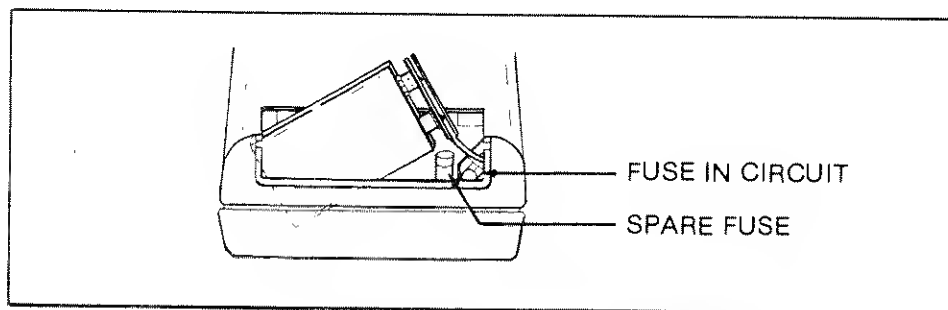

Figure 2-2. Battery Removal and Fuses
4. Slide the battery out of the compartment as shown in Figure 2-2.
When you installed the battery, you probably noticed two fuses at the right side of the battery compartment (refer to Figure 2-2 or examine your instrument). The fuse at the far right is F1. Fuse F1, 2A/250V, protects the current input from an input overload. The other fuse is a spare fuse for F1. When you purchase your instrument, F1 should be installed and the spare fuse should be in one of the two slots next to it. The larger slot is for the American-style fuse, and the smaller slot is for the European-style fuse (either style fuse fits in the installation compartment).